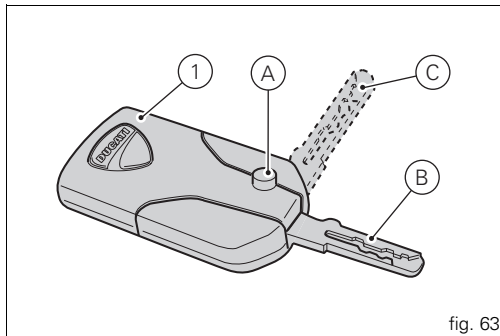

fig. 63
The active key (1, fig. 63) is the one that is normally used: press button (A, fig. 63) to fully open the metal part, i.e. position (B, fig. 63). Holding depressed button (A, fig. 63) you can move the metal part and set it to the middle position (C, fig. 63); once in place, release button to lock. The metal part returns inside the grip by pushing it in.